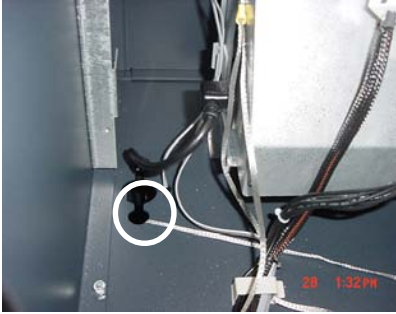

Figure 2-4
6. Locate the strain relief grommet, insert cable, and close grommet. Insert grommet into the opening shown in Figure 2-4. If you need to adjust the cable length, gently push/pull on cable to desired length.